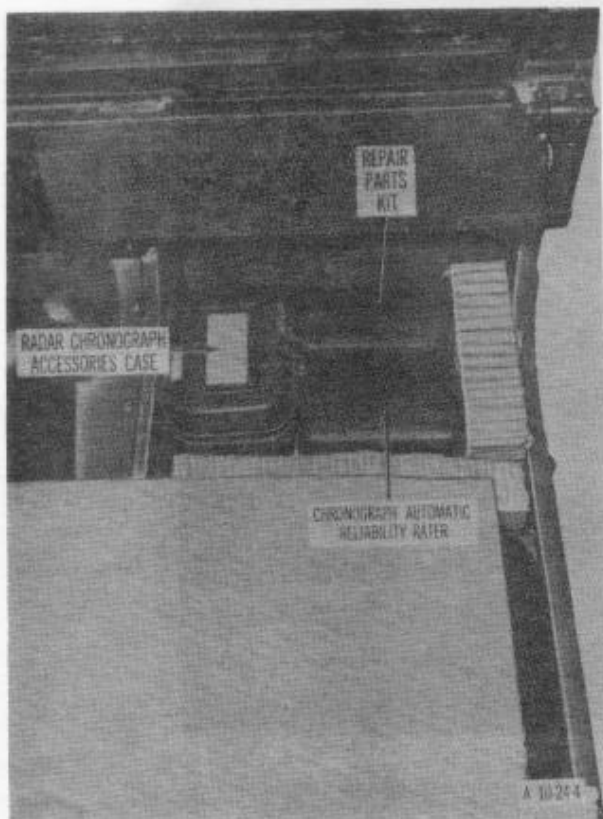
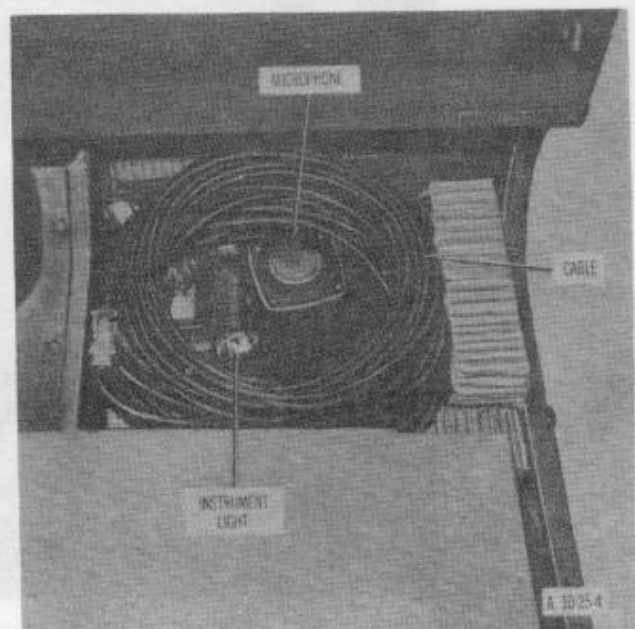
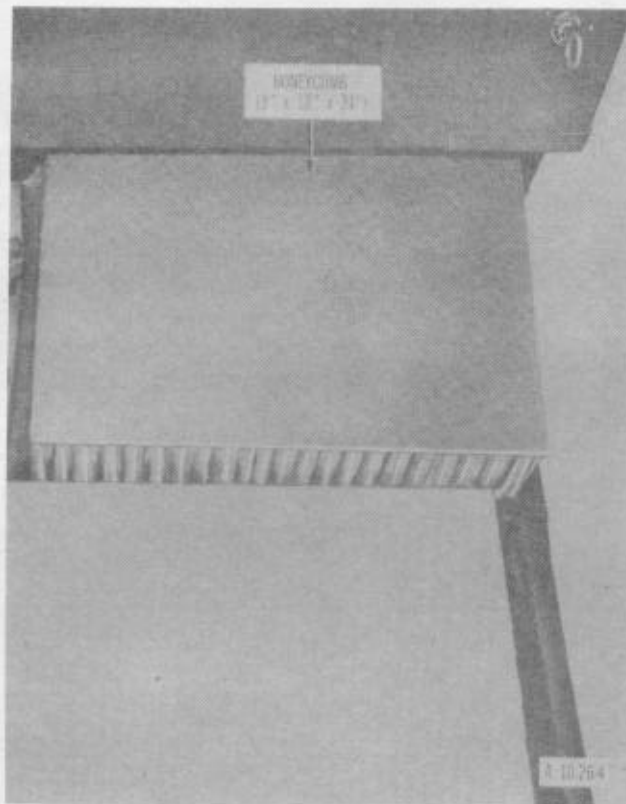

Figure 6-6. Radar test receiver, telescope, and chronograph automatic reliability rater stowed.
Figure 6-7. Microphone, instrument light, and cable stowed.
Figure 6-8. Honeycomb positioned over components.
c. Stowing Components. Position radar test receiver, telescope, and chronograph automatic reliability rater on passenger's side (fig 6-6). Position the microphone, instrument light, and cable on top of these components (fig 6-7). Cover with a 3- by 18- by 24-inch piece of honeycomb as shown in figure 6-8.